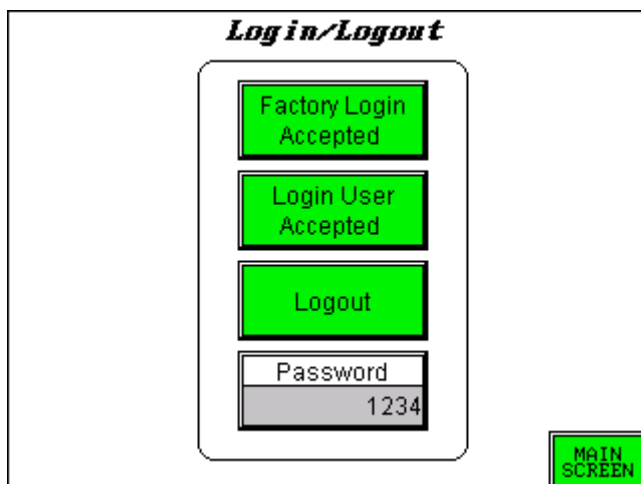

Figure 22 Login/Logout screen
- 1 To log in, press the **Login** button. The following screen (Figure 22) appears: